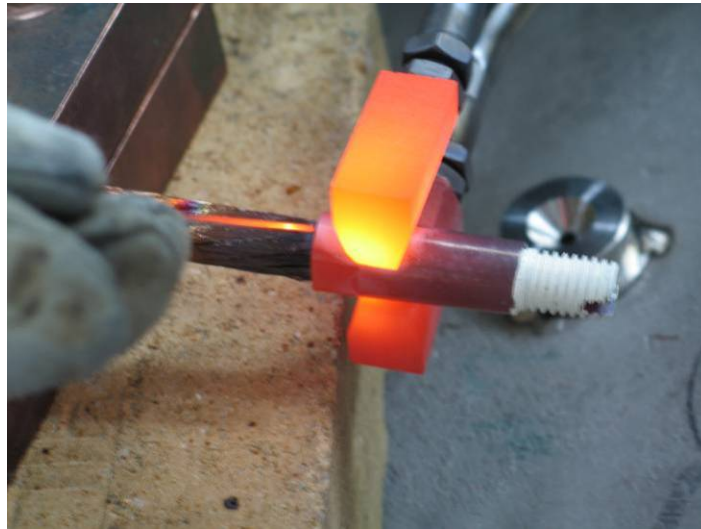
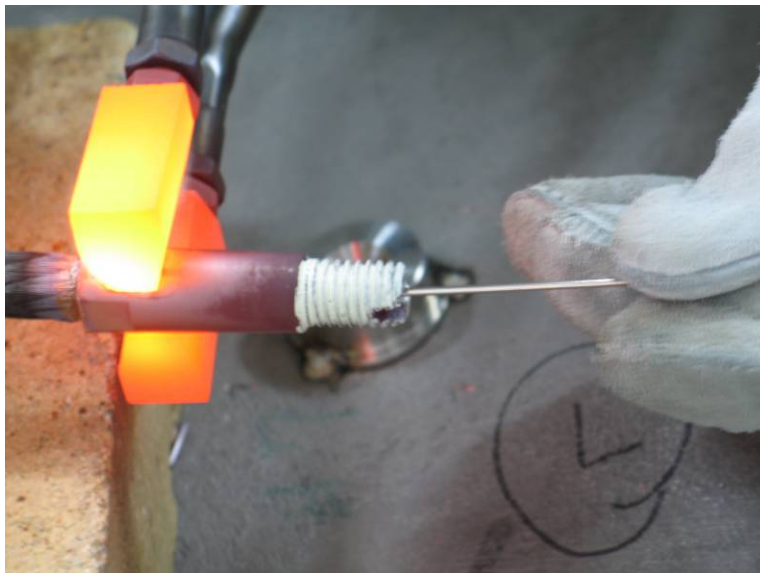

Figure 20- Feeding Sil-Fos Position B
Figure 21- Feeding Sil-Fos Position C
- 6.12.10 Move the center toggle switch down to LOW, and using the carbon tongs heat the copper connector. The current on the meter should read approximately **15 amps**. Once at temperature, feed the Sil-Fos rod first from the conductor side [B] [Figure 20- Feeding Sil-Fos Position B] using approximately 1/3 to 1/2 of a Sil-Fos rod. Then feed through the feedhole at the threaded end of the connector [C] [Figure 21- Feeding Sil-Fos Position C] using 1/2 to 2/3 of a Sil-Fos rod.